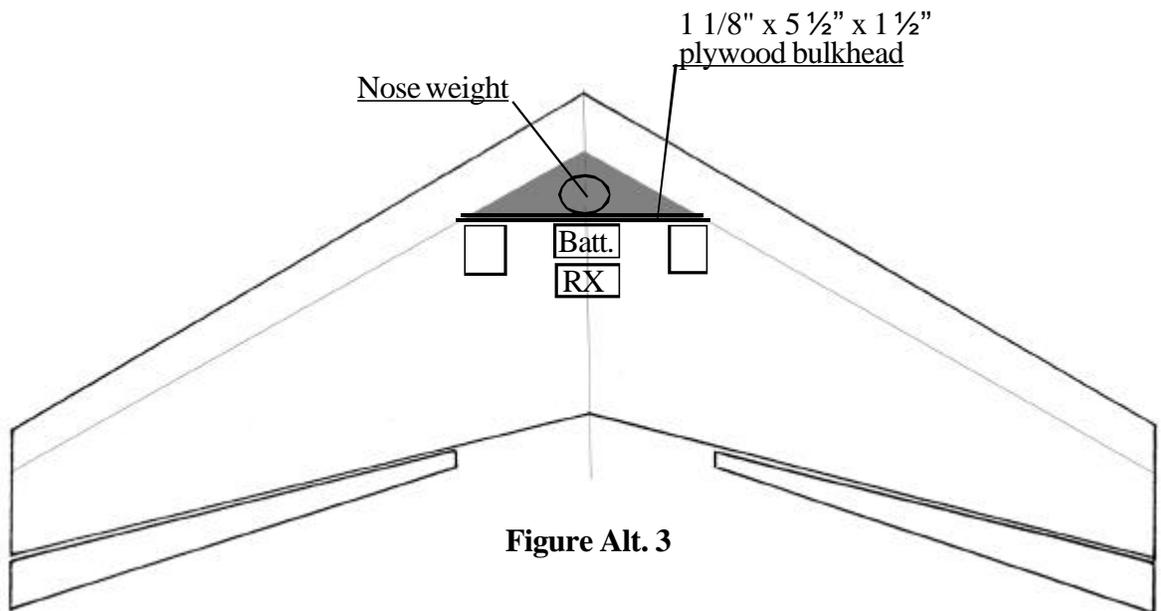

Figure Alt. 3
Install the nose weight in the EPP foam against the plywood bulkhead opposite the receiver (RX). (See **Figure Alt. 3**)